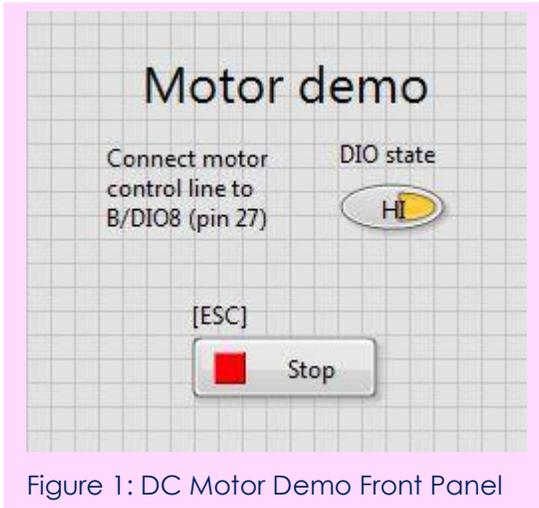

Figure 1: DC Motor Demo Front Panel
**Step 2:** Open the DC Motor demo folder and the DC Motor project (DC Motor demo.lvproj). Open the VI titled “Main.vi”. On the front panel should be a boolean for the motor's state, HI or LO (Figure 1). HI will turn the motor off while LO will activate it. This means that the circuit is an “active low” circuit, as our desired activity occurs when our digital state is written “low”.